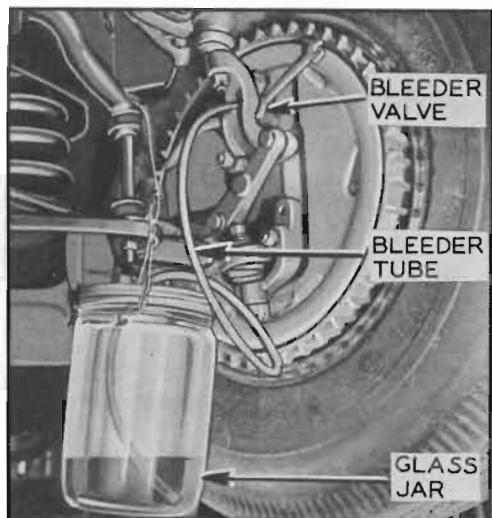

Figure 9-6—Bleeding Front Wheel Cylinder
2. Remove cover and slip a brake bleeder tube over ball of wheel cylinder bleeder valve. Place lower end of bleeder tube in a clean glass jar. Unscrew bleeder valve  $\frac{3}{4}$  of a turn. See figure 9-6.
3. Remove cover and slip a brake bleeder tube over ball of wheel cylinder bleeder valve. Place lower end of bleeder tube in a clean glass jar. Unscrew bleeder valve  $\frac{3}{4}$  of a turn. See figure 9-6.